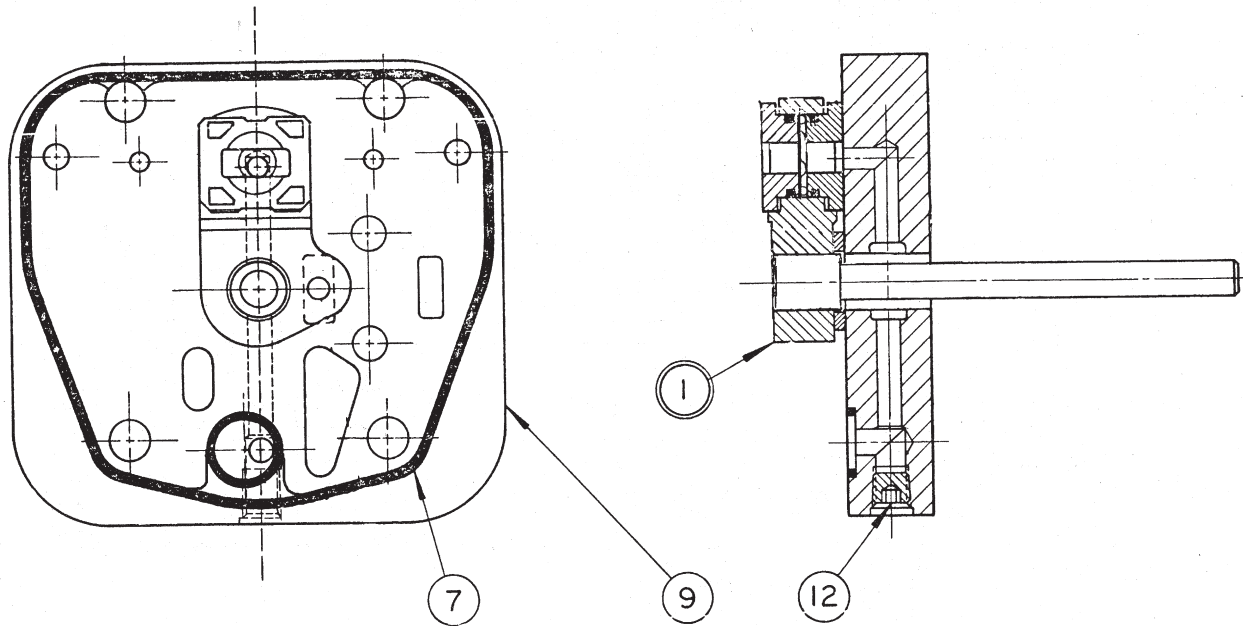

FIGURE 60-1
See Figure 60-1
8. Install spool (13) in stroker body. Press dowel (9) into clamp (8) to .500" (12.7mm) dimension shown. Install screw (4) in clamp. Slip clamp into body to engage groove in spool (13). Slip servo shaft assembly through the body and through the clamp.
10. Holding a flat plate against the ends of the spool bore, rotate the shaft clockwise and counterclockwise, causing spool (13) to travel from flush one side to flush the other side. Observe the position of the shear seal relative to the two 3/16 dowel holes in the cover. Position such that the overlap is equal on each side. Eliminate end play and torque screw (4) to 72 lbs-in. (8 Nm), locking the clamp to the shaft.
11. Place washers (17) into end connection (2). Place spring (16) on washer. Insert screw (21) into spring guide (14) and thread into end connection. Thread screw until spring guide (14) extends .308" (7.82 mm) beyond mating surface of end conn. (2). Thread nut (18) hand tight.
12. Place washer (15) and O-ring (22) in position as shown.
13. Using screws (26) bolt end connection (2) onto body (25). Torque to 14 lbs-ft. (19 Nm).
14. Install O-ring (19) on plug (20) and insert into end connection.
16. Install cover (23) with cover screws (24) and O-ring (27). Torque screws to 14 lbs-ft. (19 Nm).
17. If control is to be tested on pump, install on pump control pad with gasket (7), ref Fig. 60-1, Nyltite washers (12), and screws (10). Torque to 30 lb. ft. (40.8 Nm).
For Figure 60-1 - Servo for hydraulic stroker